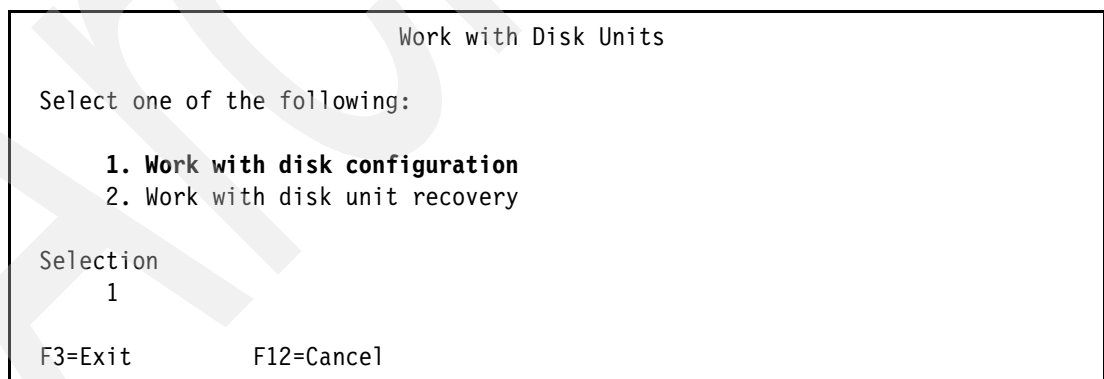

Figure 5-52 Working with Disk Units panel
2. From the Work with Disk Units menu (Figure 5-52), select **1. Work with disk configuration**.